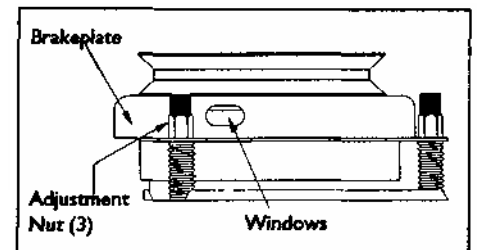

figure 2
4. Locate the three holes in the brakeplate, one near each adjustment nut (figure 2).